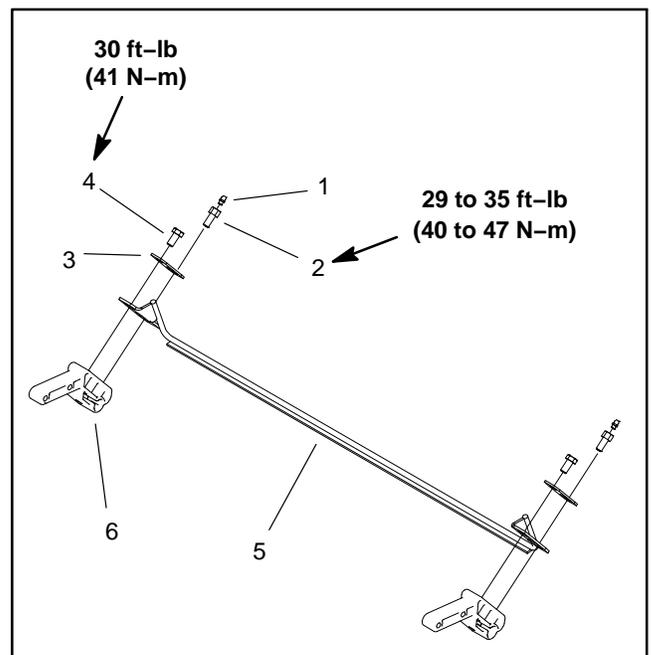

Figure 11
2. If cutting deck is equipped with a roller scraper (Fig. 11), remove fasteners securing left and right scraper rod brackets to roller mounts. Remove scraper rod assembly.
3. Remove four (4) flange head screws securing roller mounts to rear of deck frame. Remove roller mounts and rear roller assembly from deck frame.
5. If equipped with scraper rod, install and adjust scraper rod assembly to roller mounts (Fig. 11). The gap between the scraper rod and roller should be from 0.020 to 0.040 in (0.5 to 1.0 mm). Torque cap screws **30 ft-lb (41 N-m)**.
6. Install and tighten fasteners that secure each end of roller to roller mounts. Torque roller shaft screws (item 4) and cap screws (item 8) from **29 to 35 ft-lb (40 to 47 N-m)**.